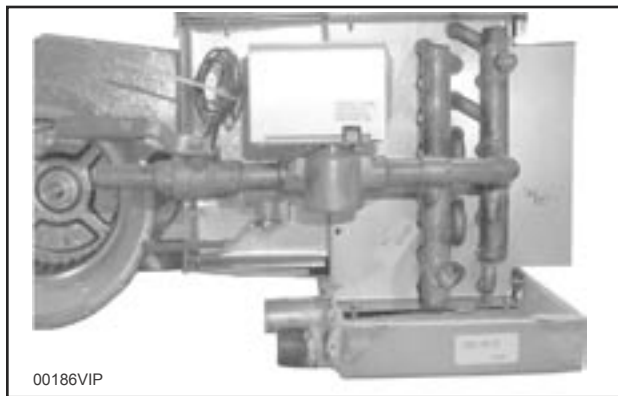

FIG. 4 – 2 WAY MOTORIZED VALVE ASSEMBLY
1. The 3-way valve assemblies will mount to the coil in only one position. On four-pipe right hand systems, a "B" valve assembly is required for the chilled water connection and an "A" valve assembly is required for the hot water connection. On left hand systems, an "A" valve assembly is required for the chilled water connection and the hot water connection. (See figure 4.)